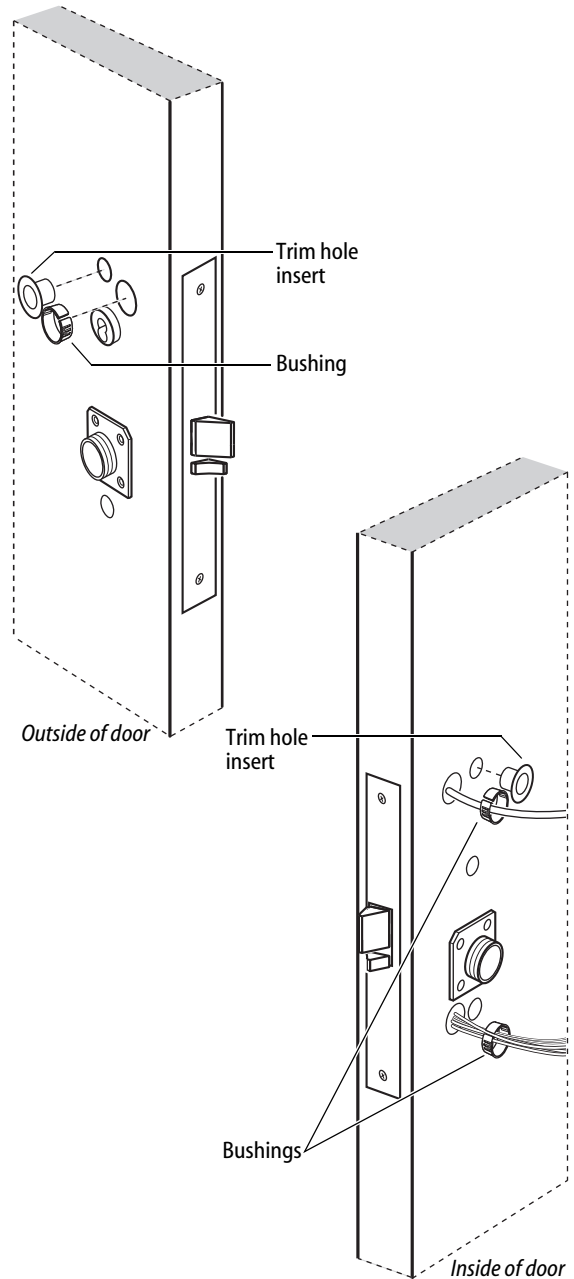

Figure 14 Installing the trim hole inserts and bushings
- 1 Insert the two trim hole inserts into the upper trim hole on each side of the door, as shown in Figure 14.
- 2 Insert two bushings into the field harness & reader wire hole on each side of the door, as shown in Figure 14.
- 3 Insert a bushing into the sensor & solenoid wire hole on the inside of the door, as shown in Figure 14.